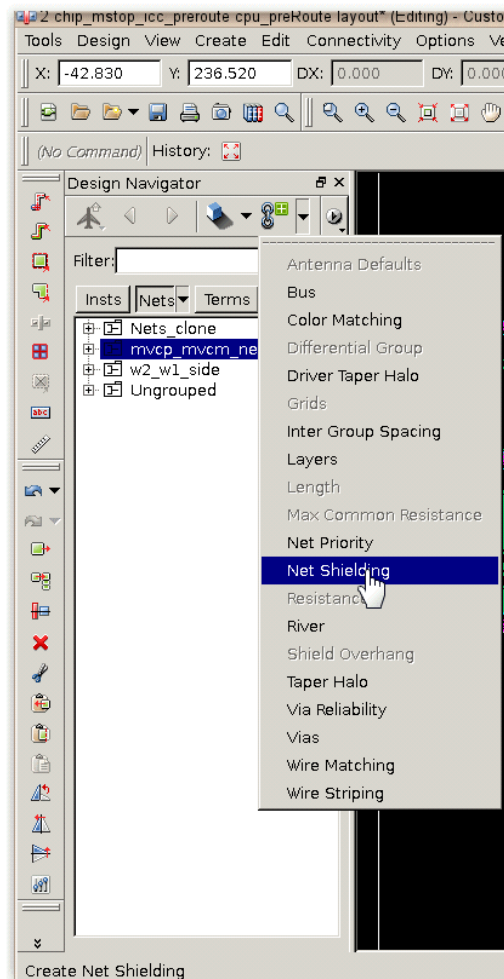

Figure 9 Creating Net Shielding Constraint in the Design Navigator
- e. Use the **Create Constraint** button menu  to choose the **Net Shielding** constraint to apply to this net group, which creates a net shielding constraint (shown in Figure 9).